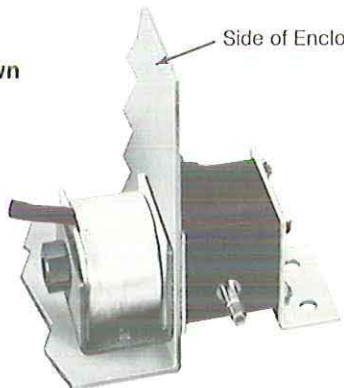

Figure 3. Solenoid Mounting Location
4. Install plunger tube through hole in electrical enclosure. (See Figure 3.)